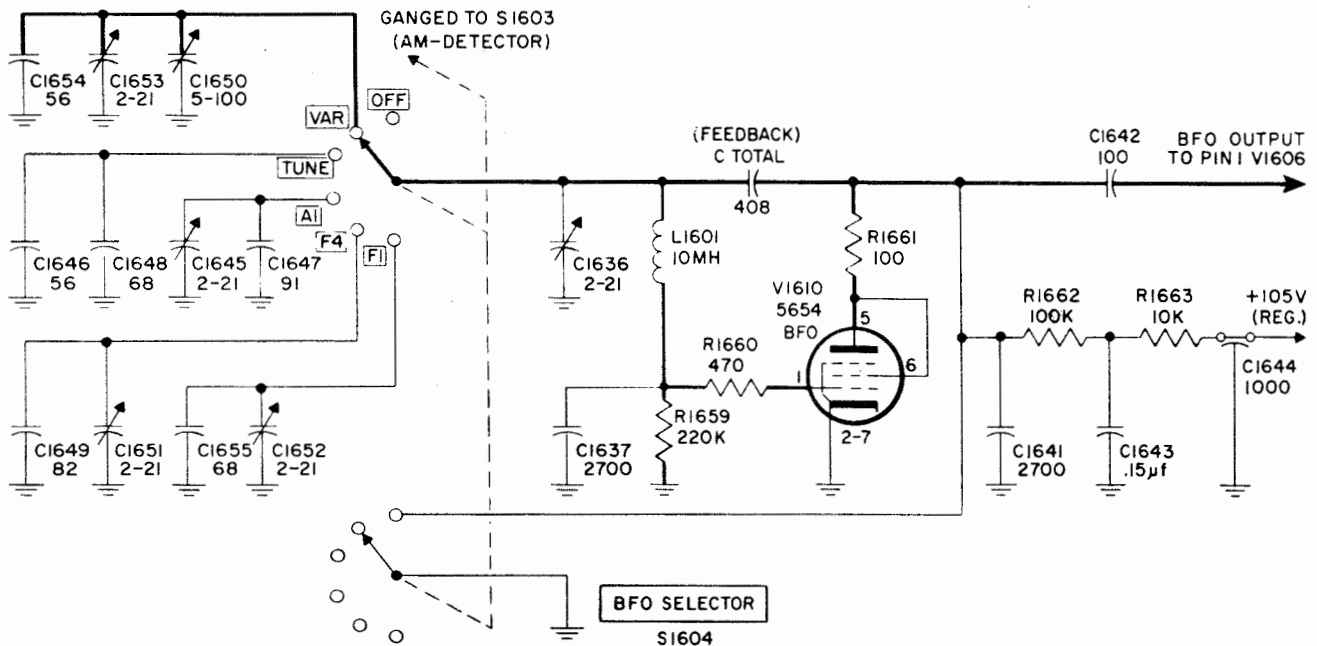

Figure 4-25. Beat-Frequency Oscillator V1610, Simplified Schematic Diagram
b. BEAT-FREQUENCY OSCILLATOR. (See figure 4-25.)—The beat-frequency oscillator (BFO) operates in conjunction with the first AF amplifier (V1606) to provide reception of keyed CW and frequency-shift signals. BFO and 80 kc IF signals are heterodyned in V1606 to produce the desired beat note. The output frequency signal of the BFO is determined by the position of the B.F.O. SELECTOR switch on the upper demodulator panel. There are six positions. OFF position, with the BFO inoperative, is used for reception modes other than keyed CW and frequency-shift, VAR. position provides a frequency vernier control of approximately 3 kc either side of "zero beat." TUNE position provides an 80 kc signal from the BFO for zero-beating with the 80 kc IF signal to make certain that the latter is in the center of the IF passband. In A1 position, the BFO is adjusted to 81 kc to provide a 1 kc beat note for CW reception. In F4 position, the BFO output is 81.9 kc to produce the 1,900 cycles required for facsimile reception, and in F1 position the BFO output is 82.55 kc to produce 2550 cycles for frequency-shift operation.